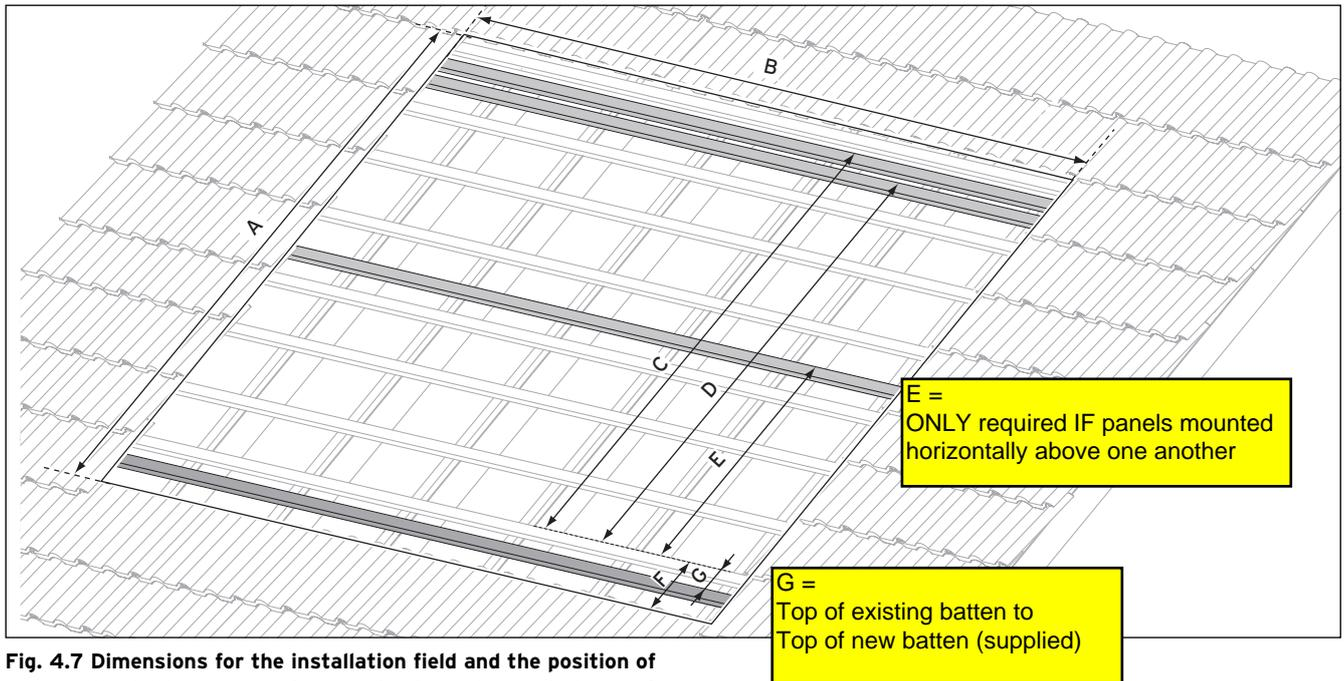

Fig. 4.7 Dimensions for the installation field and the position of the battens (The reference line in each case is the roof tile border)
- Based on the dimensions (see Fig. 4.7), define the installation field on the roof.
- Mount additional roof battens in accordance with Fig. 4.7.